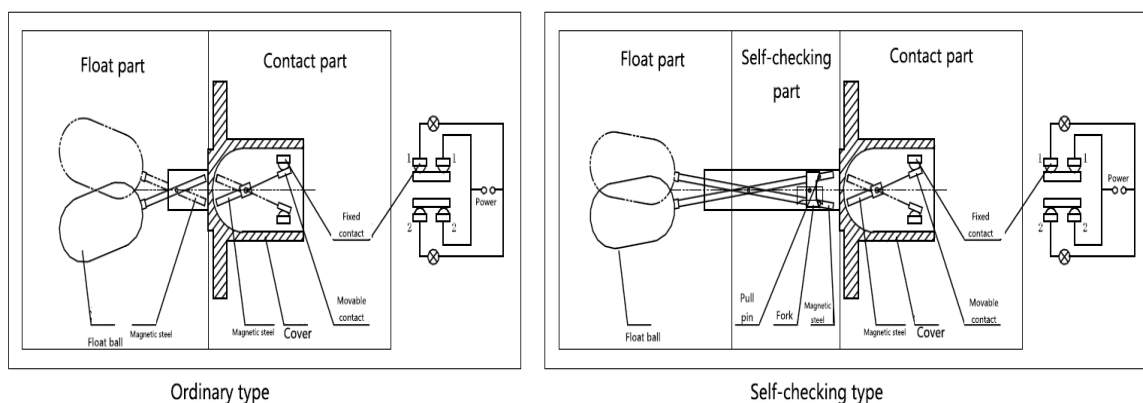

Figure 2
2.2 Operating Principle-Figure 2